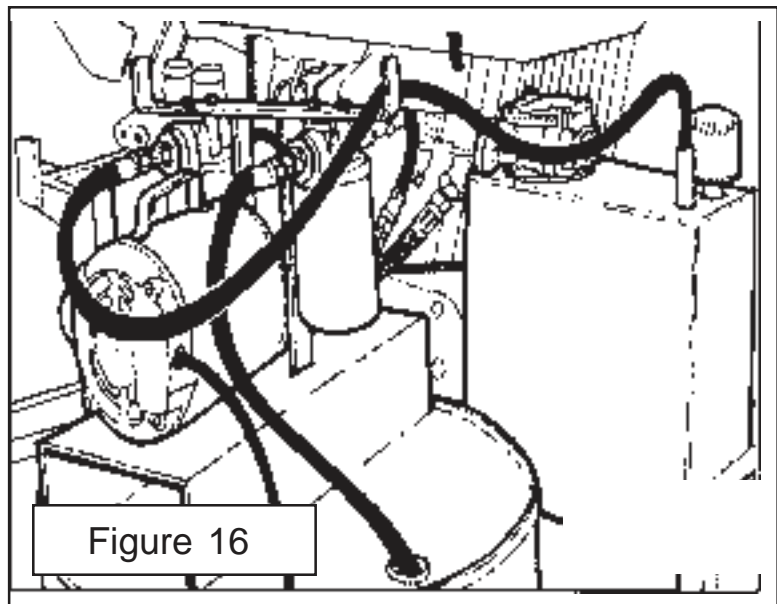

Figure 16
6. To fill the INTERSTATER reservoir with new, clean hydraulic oil, follow the steps below. Refer to the Operation and Maintenance Section for specifications. (See Figure 16)